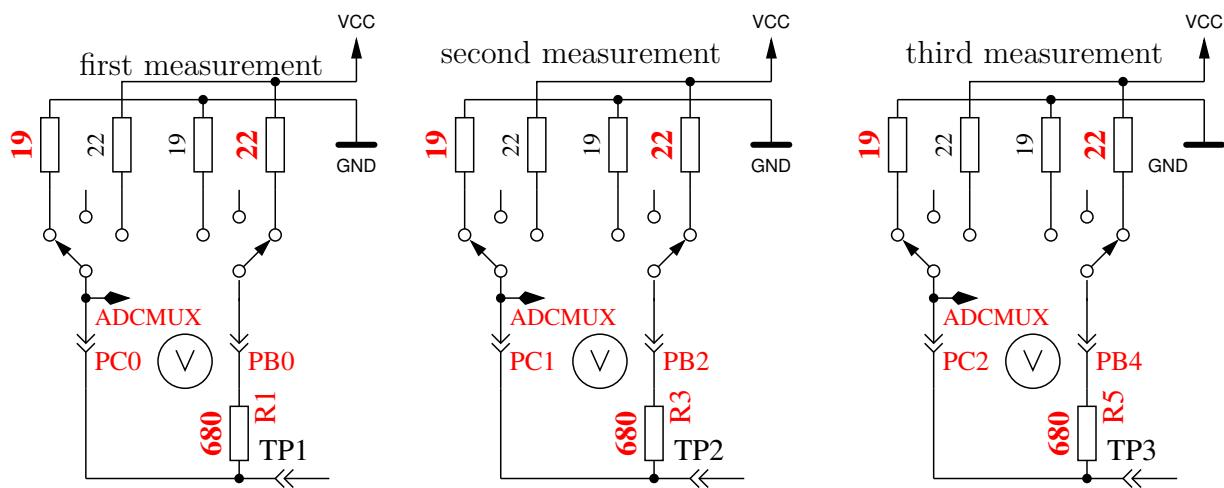

Figure 5.66. Measurement of internal resistance of Port C switched to GND
5. **This step tests the capability of GND (-) connected $470k\Omega$ resistors (H) to pull the test pins to GND.** Row 1 shows the text “RH-”. Row 2 should display zero for all three pins.
6. **This step tests the capability of VCC (+) connected $470k\Omega$ resistors (H) to pull the test pins to VCC (+).** Row 1 shows the text “RH+”. The results are shown als difference to VCC and should be near zero. Great differences from the best value for test 5 and 6 are errors such as isolation problem, flux material or damaged port.
8. Measuring of internal resistance of pin output switched to the GND signal. This test and the following tests will only be done, if the option AUTO_CAL is selected. The internal resistance of the port C outputs switched to GND (-) are measured with the current of to VCC (+) switched 680Ω resistors, see Figure 5.66. Only the three pins of the ADC port are measured, the resistor port B (PB0,PB2 and PB4) can not be measured without hardware modification. Is is assumed that the port resistance of the different ports are nearly identical. The resistor value will be shown in the next test.